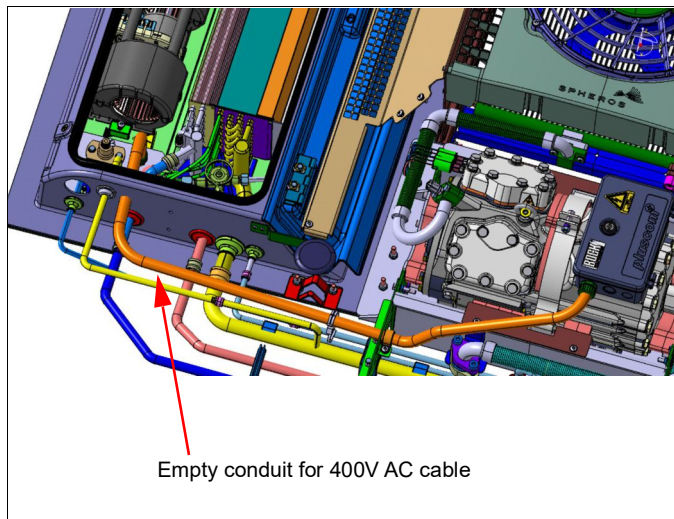

Figure 23:
- 4 Empty conduit for the 400V AC cable (Fig. 23)